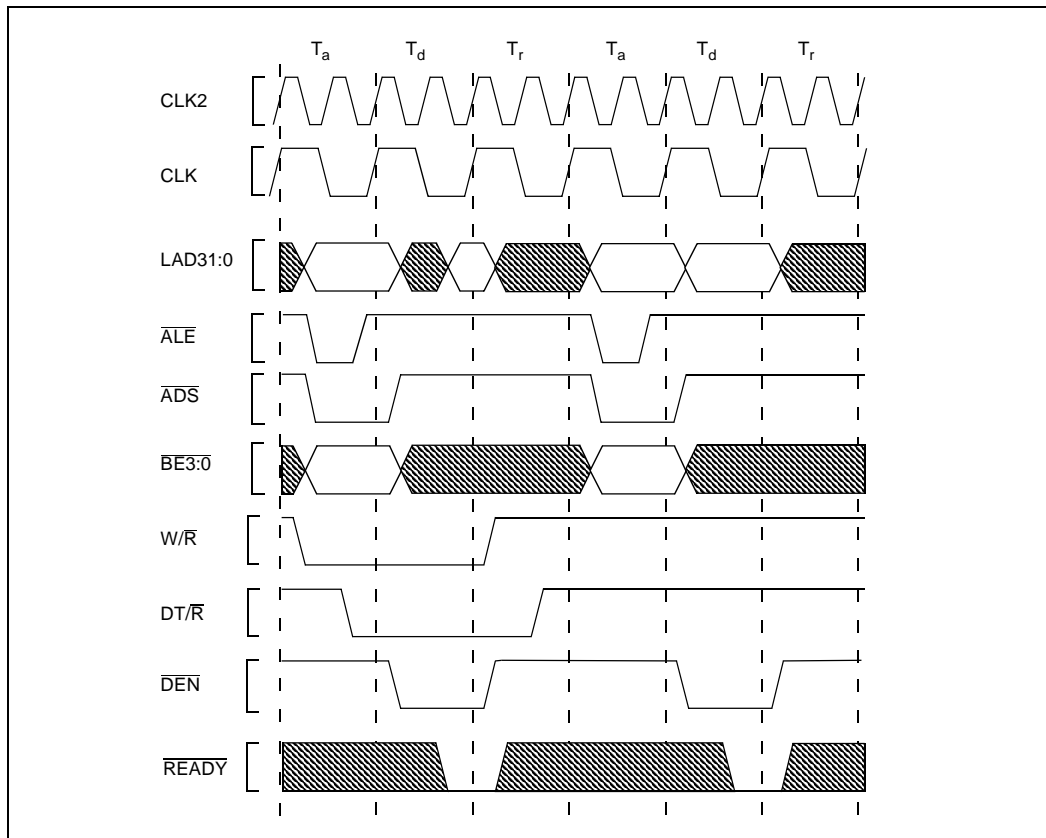
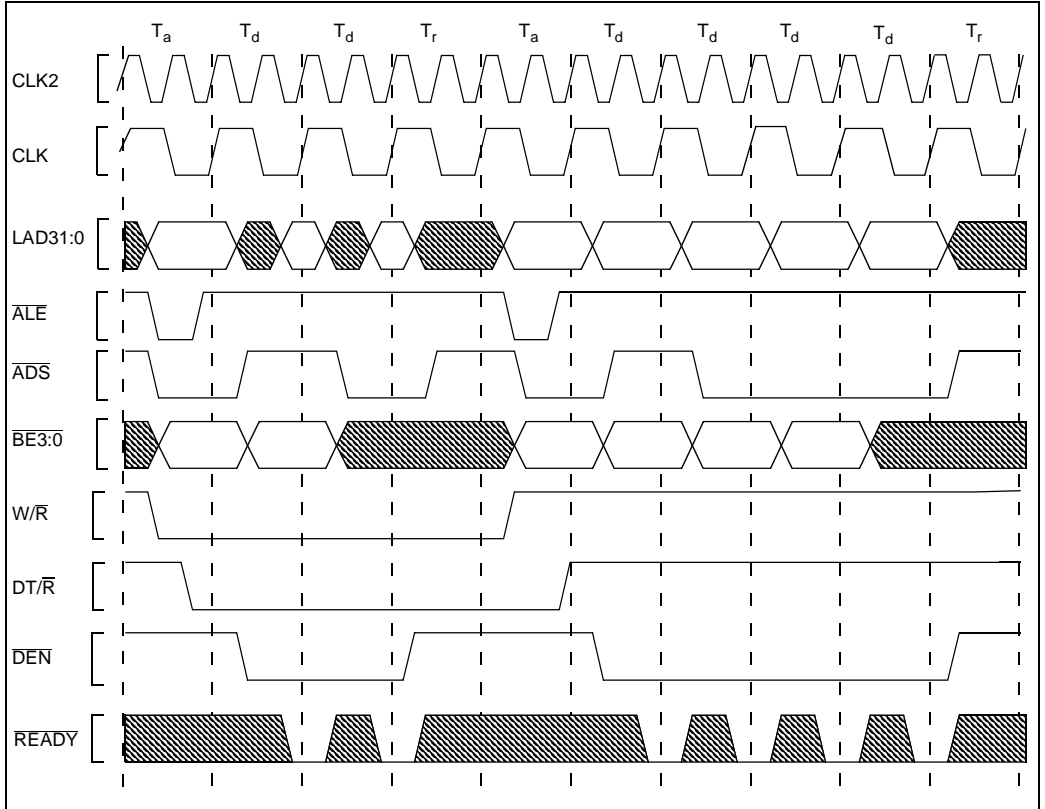
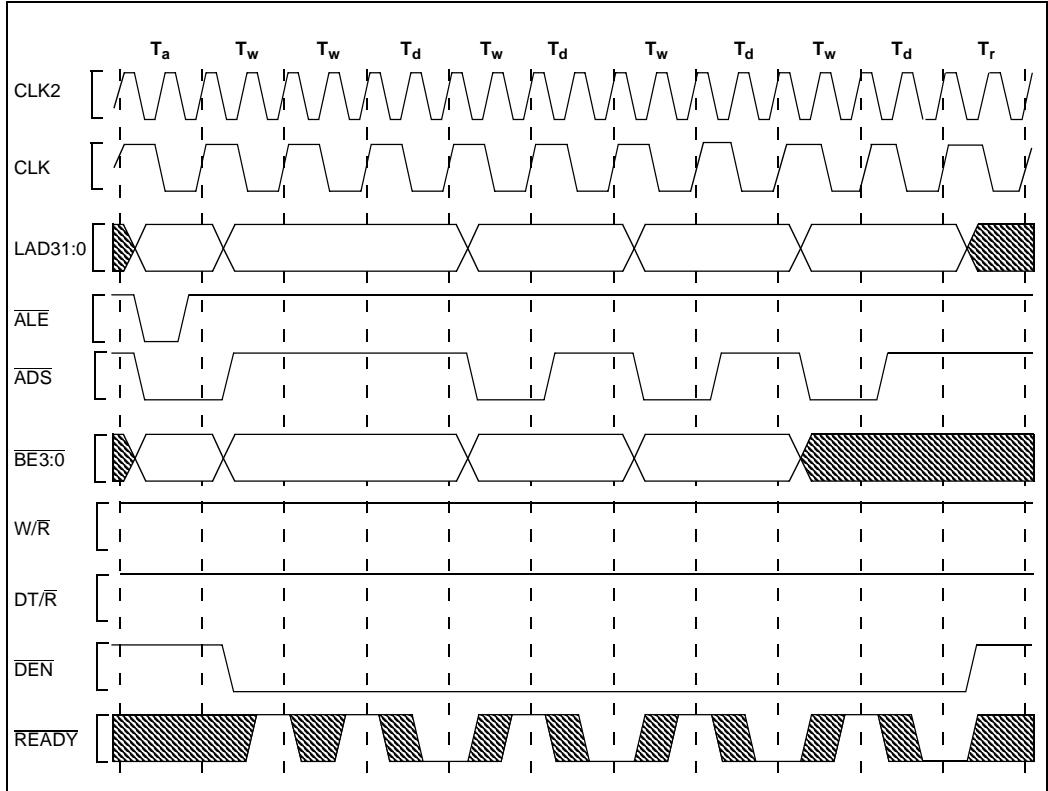

Figure 23. Non-Burst Read and Write Transactions Without Wait States
Figure 24. Burst Read and Write Transaction Without Wait States
Figure 25. Burst Write Transaction with 2, 1, 1, 1 Wait States
Maximum allowable ambient temperature (T_A) permitted without exceeding T_C is shown by the graphs in Figure 23, Figure 24 and Figure 25. The curves assume the maximum permitted supply current (I_{CC}) at each speed, V_{CC} of +5.0 V and a T_{CASE} of +85° C (PGA).
- Figure 23, Non-Burst Read and Write Transactions Without Wait States \(pg. 30\)
- Figure 24, Burst Read and Write Transaction Without Wait States \(pg. 31\)
- Figure 25, Burst Write Transaction with 2, 1, 1, 1 Wait States \(pg. 32\)